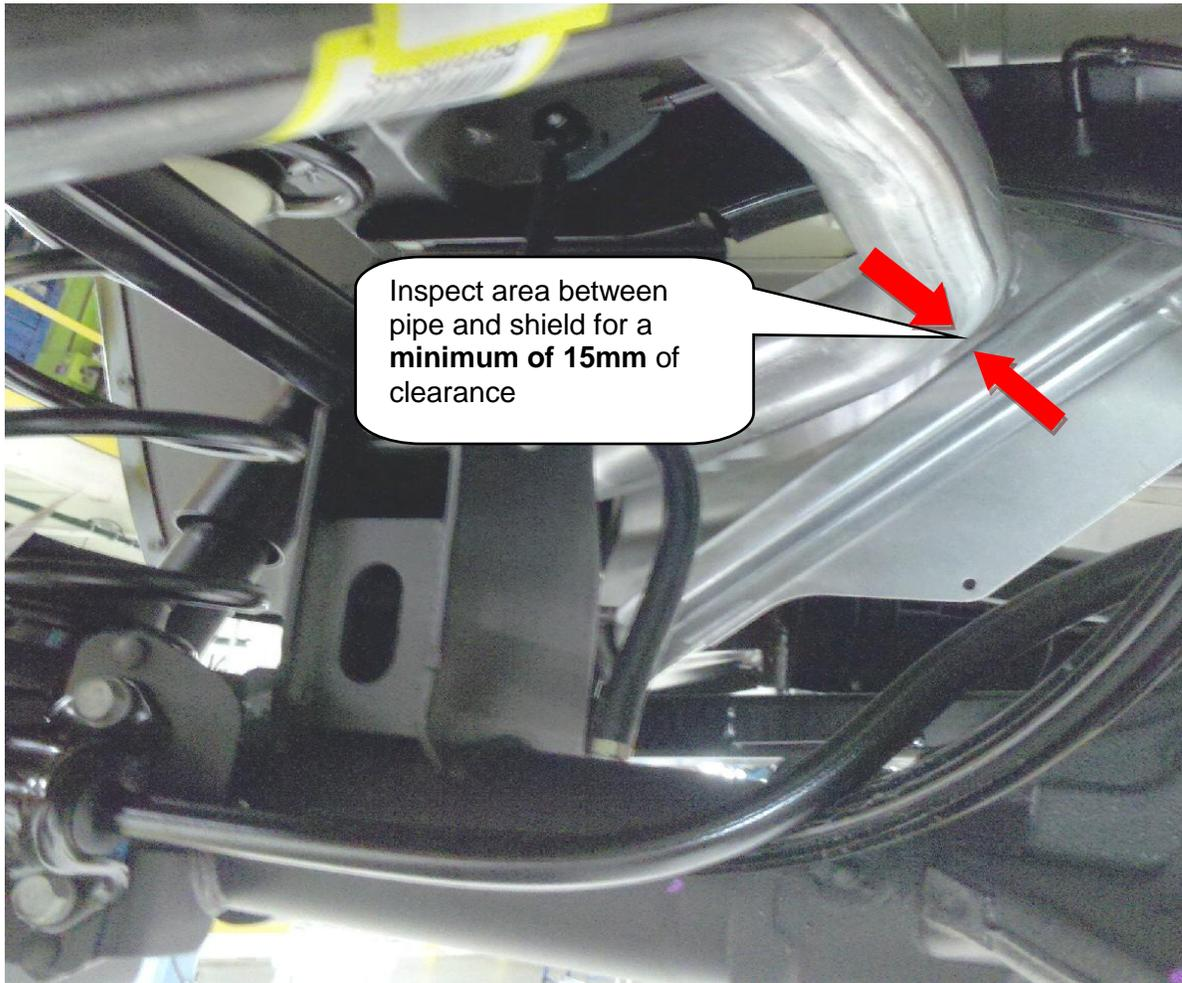

Figure 1- Measurement Location
1. Raise the vehicle and inspect the clearance of the tail pipe to the rear heat shield (Fig 1). Minimum clearance should be 15 mm (0.59 In). Figure 1 is an example of the proper clearance between the heat shield and the tail pipe.
6. Recheck clearance between tail pipe and rear heat shield (Fig 1). Is the clearance at least 15mm (0.59 In)?